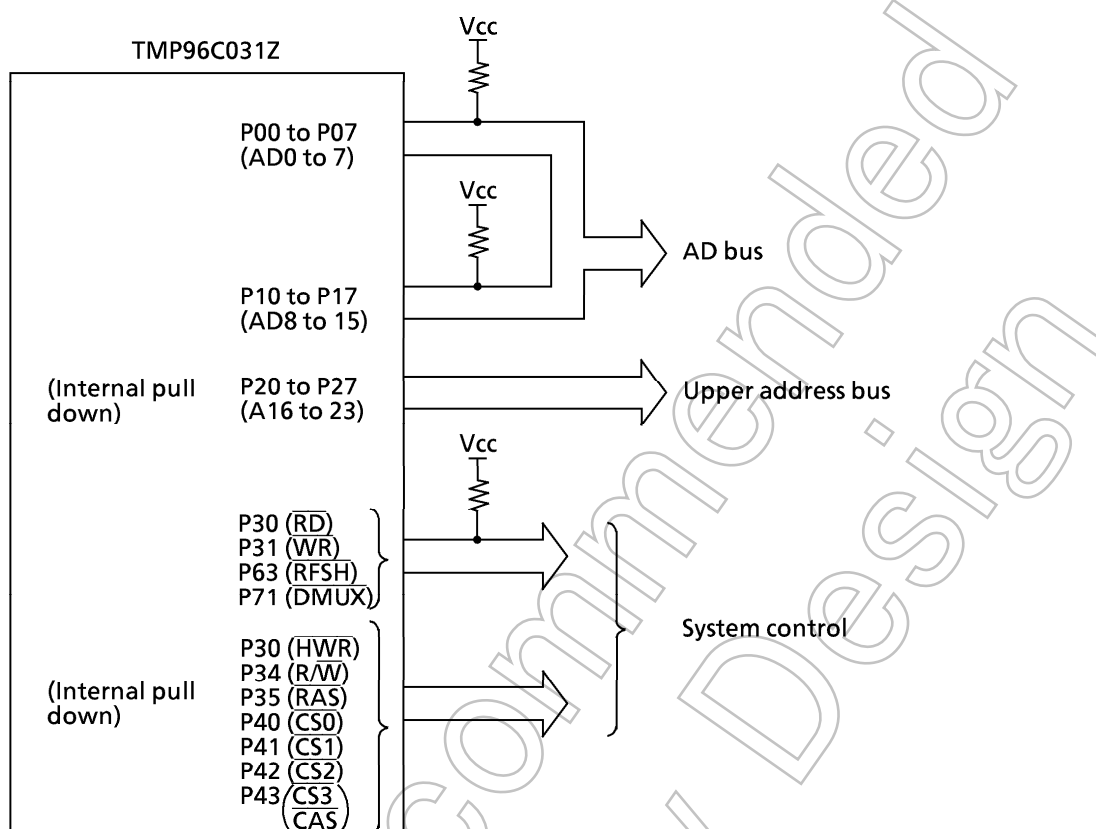

Figure 3.5 (1) External bus interface example when bus release function is in use
Figure 3.5 (1) shows the external bus interface when the bus release function is in use. The internal I/O of this device cannot be accessed when the bus is released.